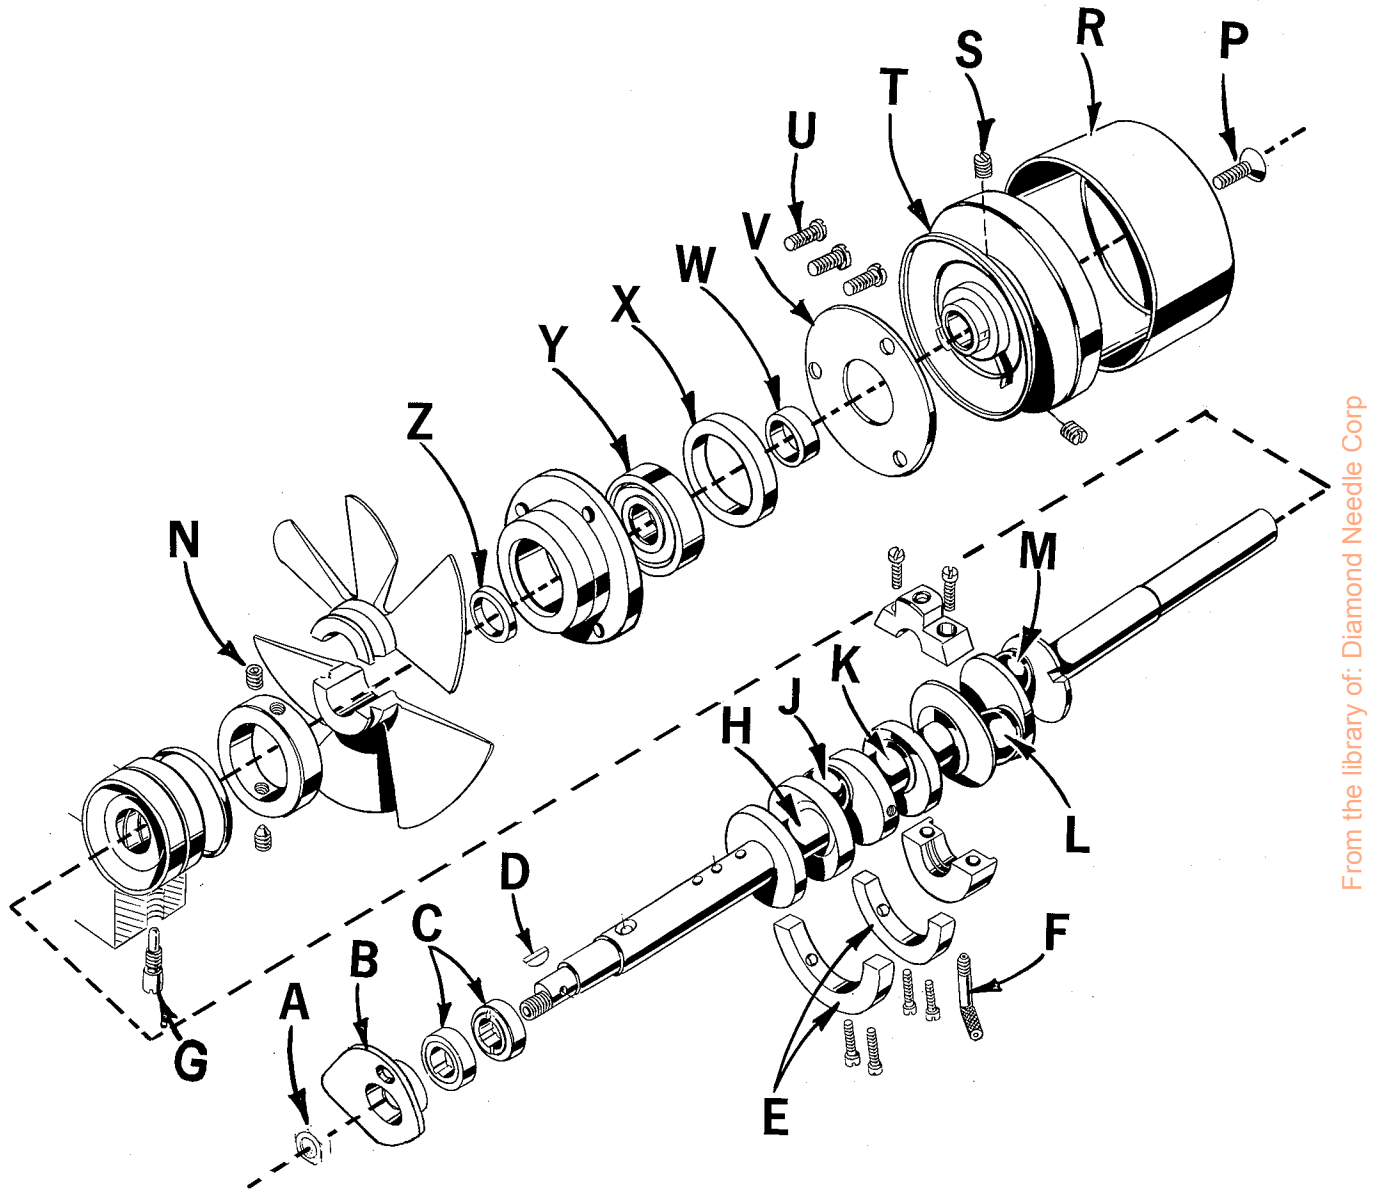
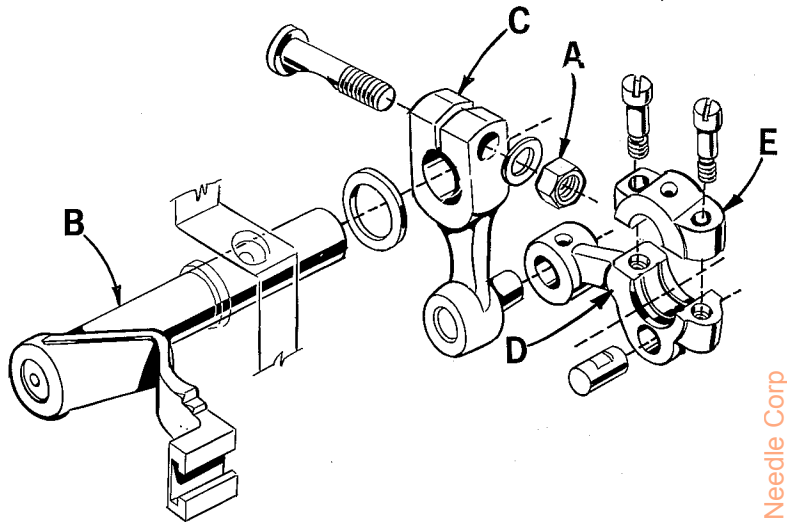

Fig. 22
Fig. 23
3. Remove nut (A, Fig. 22) 401 looper thread take-up (B) and eccentrics (C).
14. Loosen clamp nut (A, Fig. 23) which holds the upper knife driving arm (B). Access to clamp nut is through top cover. Draw driving arm to the left until upper knife driving lever (C) and connecting rod (D) drop, allowing removal of bearing cap (E). This is at bearing point (K, Fig. 22) on crankshaft. Observe same precautions when reassembling cap as described in paragraph 7.
15. Loosen two screws (N) in fan collar; remove both halves of cooling fan.
16. Remove screw (P); take off pulley cap (R).
17. Loosen two screws (S): remove pulley (T).
18. Remove three screws (U); take off bearing retaining plate (V): also, spacer collars (W) and (X) may be removed at this time.
20. If necessary to replace ball bearing (Y), it can be pressed off shaft on an arbor press. In replacing the bearing it must be pressed on carefully until it seats against ground thrust washer (Z).